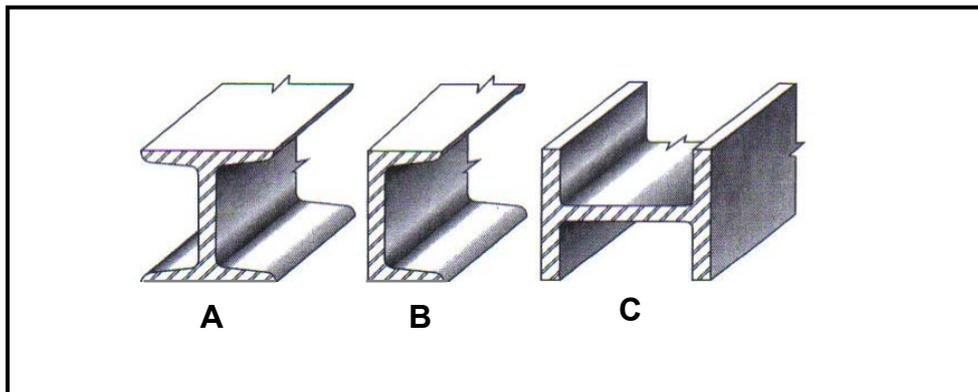

FIGURE 4.6
- 4.6 FIGURE 4.6 shows the profiles of various steel sections. (1)